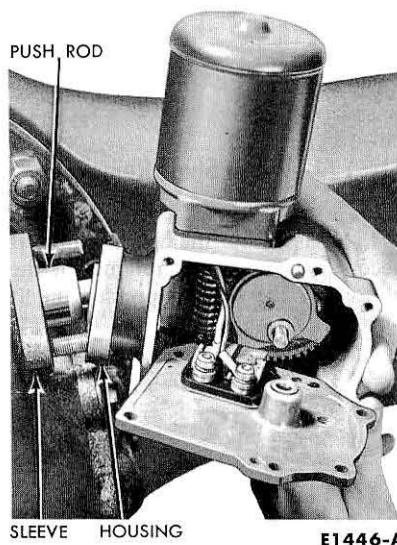

FIG. 5—Shift Unit Removal or Installation
5. Remove the nuts and lock washers from the mounting studs, and remove the shift unit from the carrier (Fig. 5). **Do not damage the oil seal in the flange.**
2. Install a new shift unit housing to sleeve gasket, and position the shift unit over the mounting studs (Fig. 5). **Do not damage the oil seal that is installed in the flange section of the shift unit housing.**